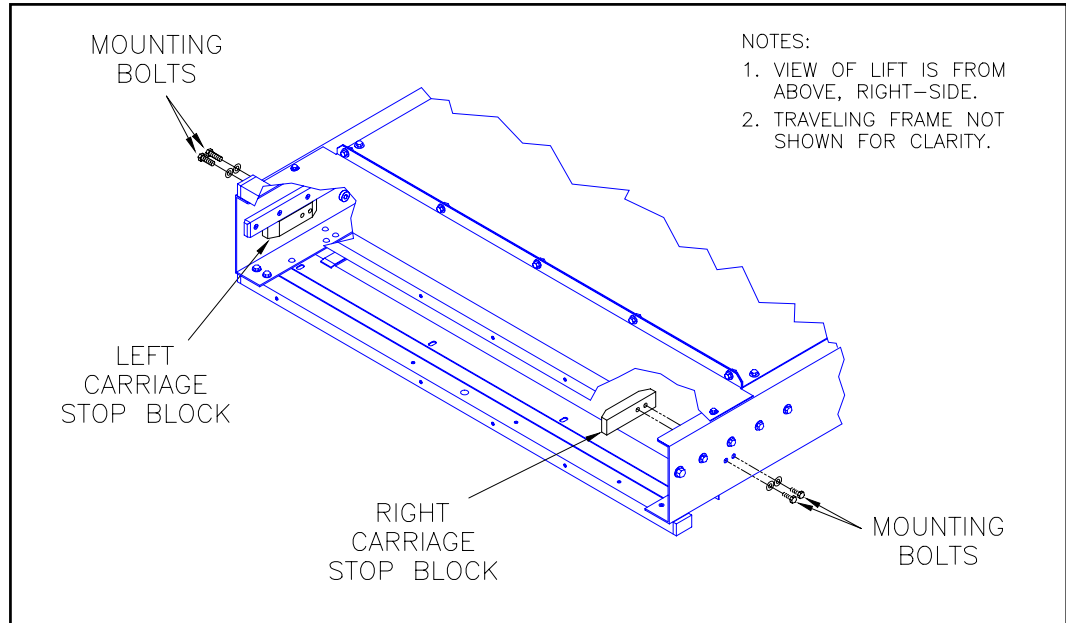

FIGURE 4-14: CARRIAGE STOP BLOCKS
- 4) Refer to **Figure 4-14**. The two bolts fastening each carriage stop block to the mounting frame channel are accessible from under the vehicle or from the front of the lift, inside the step well. Remove the bolts and both carriage stop blocks.